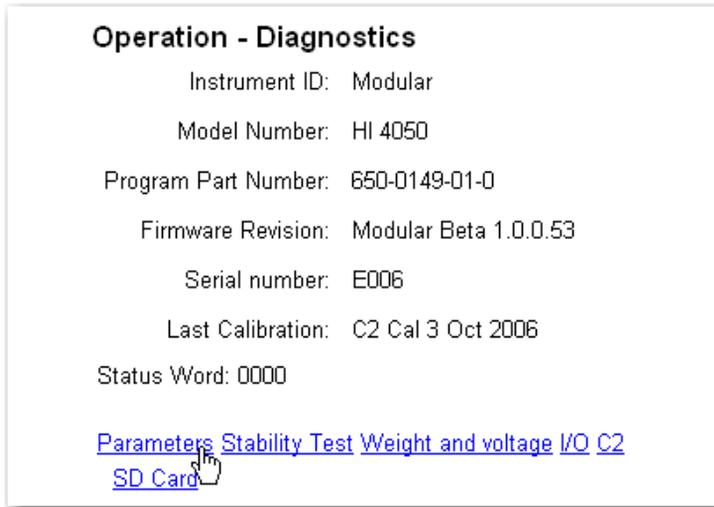

FIG. 354 DIAGNOSTICS PAGE/SELECTING PARAMETERS
Step 2. Click on Diagnostics. The Diagnostics Page appears. (See Fig. 354)